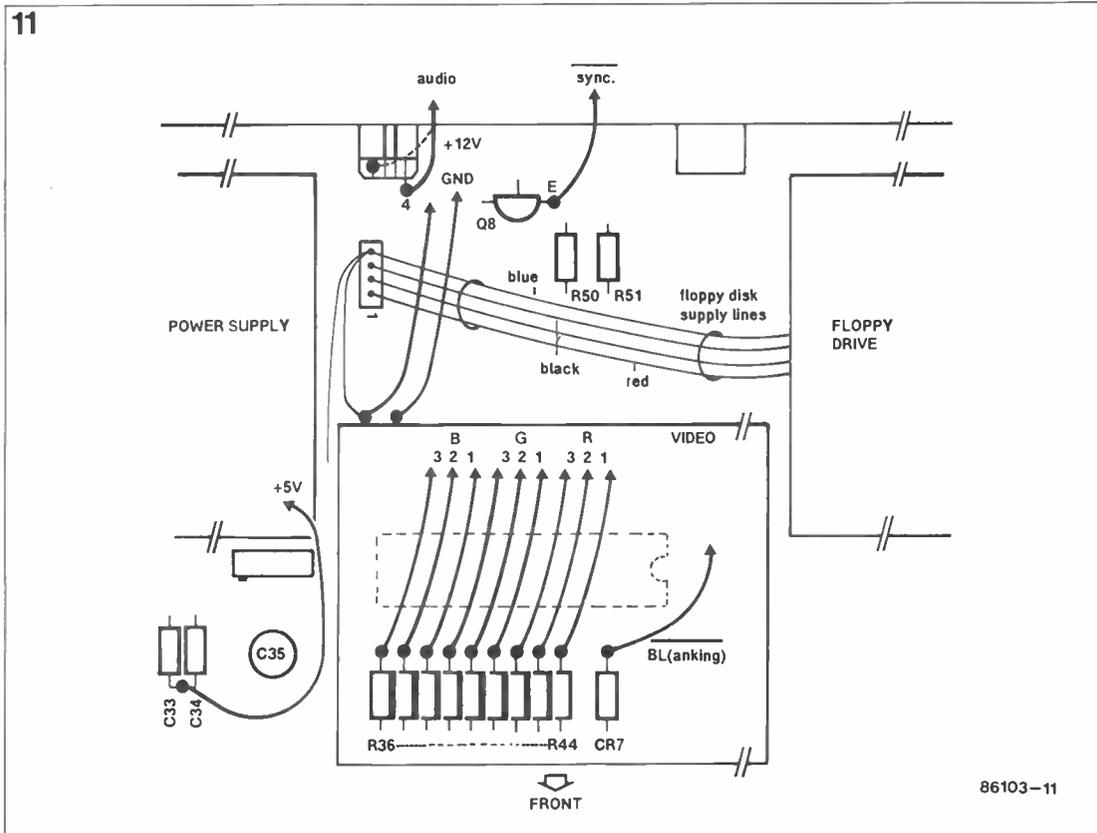

Fig. 11. Summary of all connections to be made in the Atari 1040-ST.
- Solder nine cores of a length of 10-way ribbon cable to resistors R₃₆-R₄₅ (at the side facing U₃₁) as shown in Fig. 11 and 6. The other side of the cores are connected to pins 1-9 of the D socket in accordance with Table 3. The cable can pass under the cover of the screen (see Fig. 7).